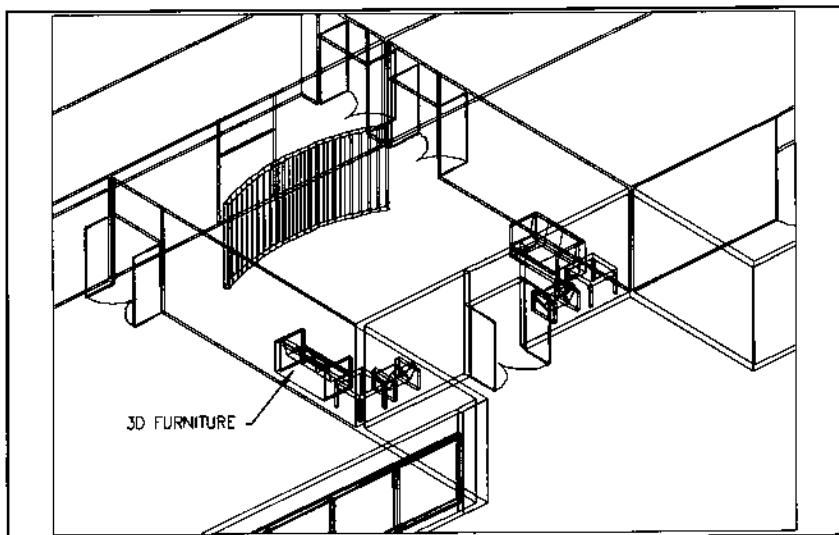

Figure 84.
4. An isometric view of the 3D furniture drawing is shown in Figure 84.